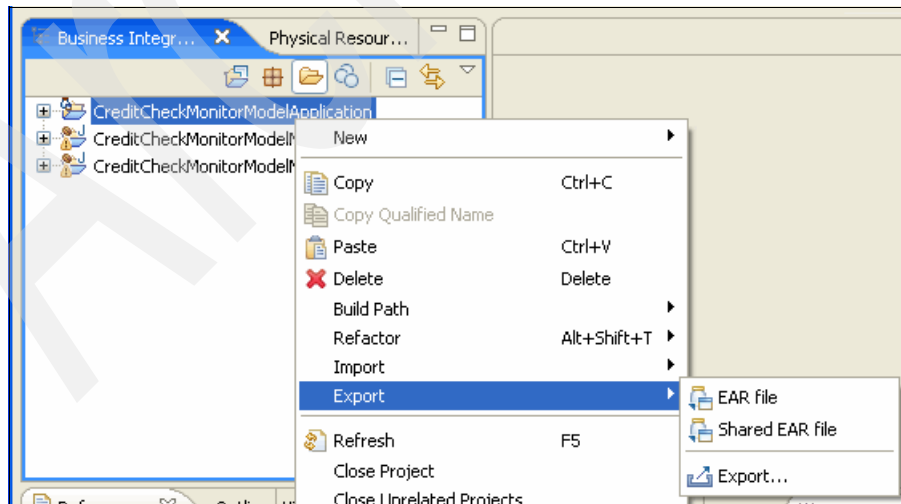

Figure 10-79 J2EE Application export menu navigation
4. To export the required EAR file, right-click the **CreditCheckMonitorModelApplication** project and select **Export** → **EAR file** (Figure 10-79).